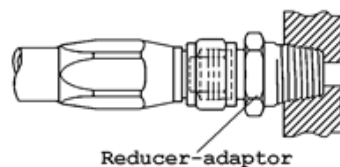

FIG 23.
- iii. To replace a bushing as a reducer. (Fig 23)